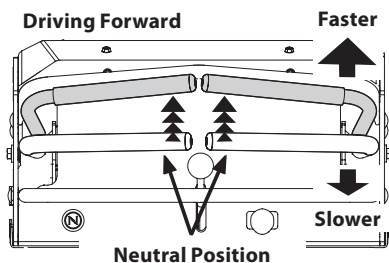

Fig. 10
1. Slowly and evenly move both drive control levers forward. The mower will start to move forward (Fig. 10).